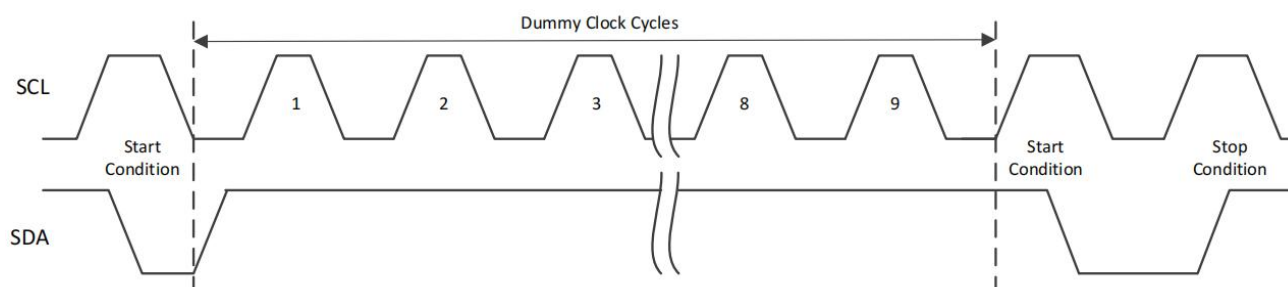

Figure 2 2-wire Software Reset
After an interruption in protocol, power loss, or system reset, any 2-wire part can be reset by following these steps: (1) Create a Start condition; (2) Clock nine cycles; (3) Create another Start condition followed by a Stop condition (see Figure 2).